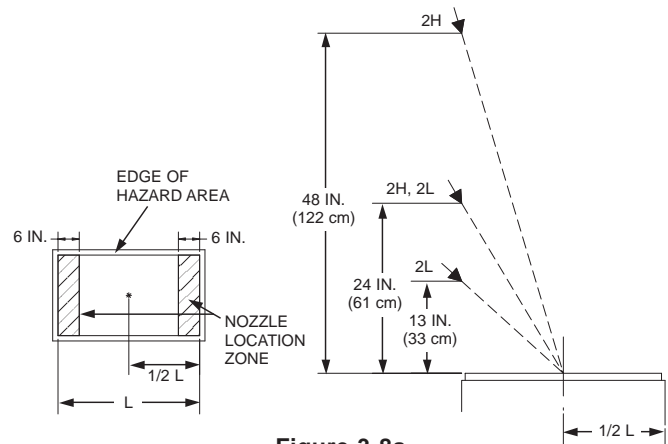

Figure 3-8a.
The 2H nozzle, Part No. 551028, is used for high proximity griddle protection. This nozzle is a two (2) flow nozzle. The nozzle must be located 0 to 6 in. (0 to 15 cm) from short side of the hazard surface, 24 in. to 48 in. (61 to 122 cm) above the cooking surface of the appliance and aimed at the center of the hazard area. See **Figure 3-8a**.
The 2L nozzle, Part No. 551027, is used for low proximity griddle protection. This nozzle is a two (2) flow nozzle. The nozzle must be located 0 to 6 in. (0 to 15 cm) from the short side of the hazard surface, 13 in. to 24 in. (33 to 61 cm) above the cooking surface of the appliance and aimed at the center of the hazard area. See **Figure 3-8a**.